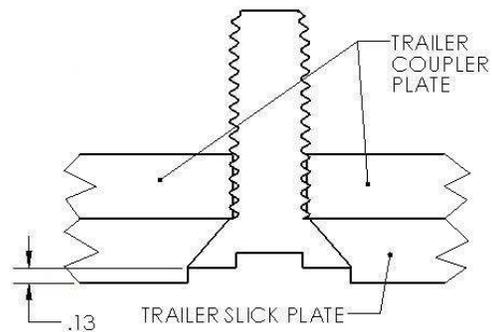

Figure 3
SCREWS SHOULD BE COUNTERSUNK AT 1/8" AS SHOWN IN FIGURE 3...NO MORE...NO LESS!
- Install Torx® screw per above procedure. Figure 3.